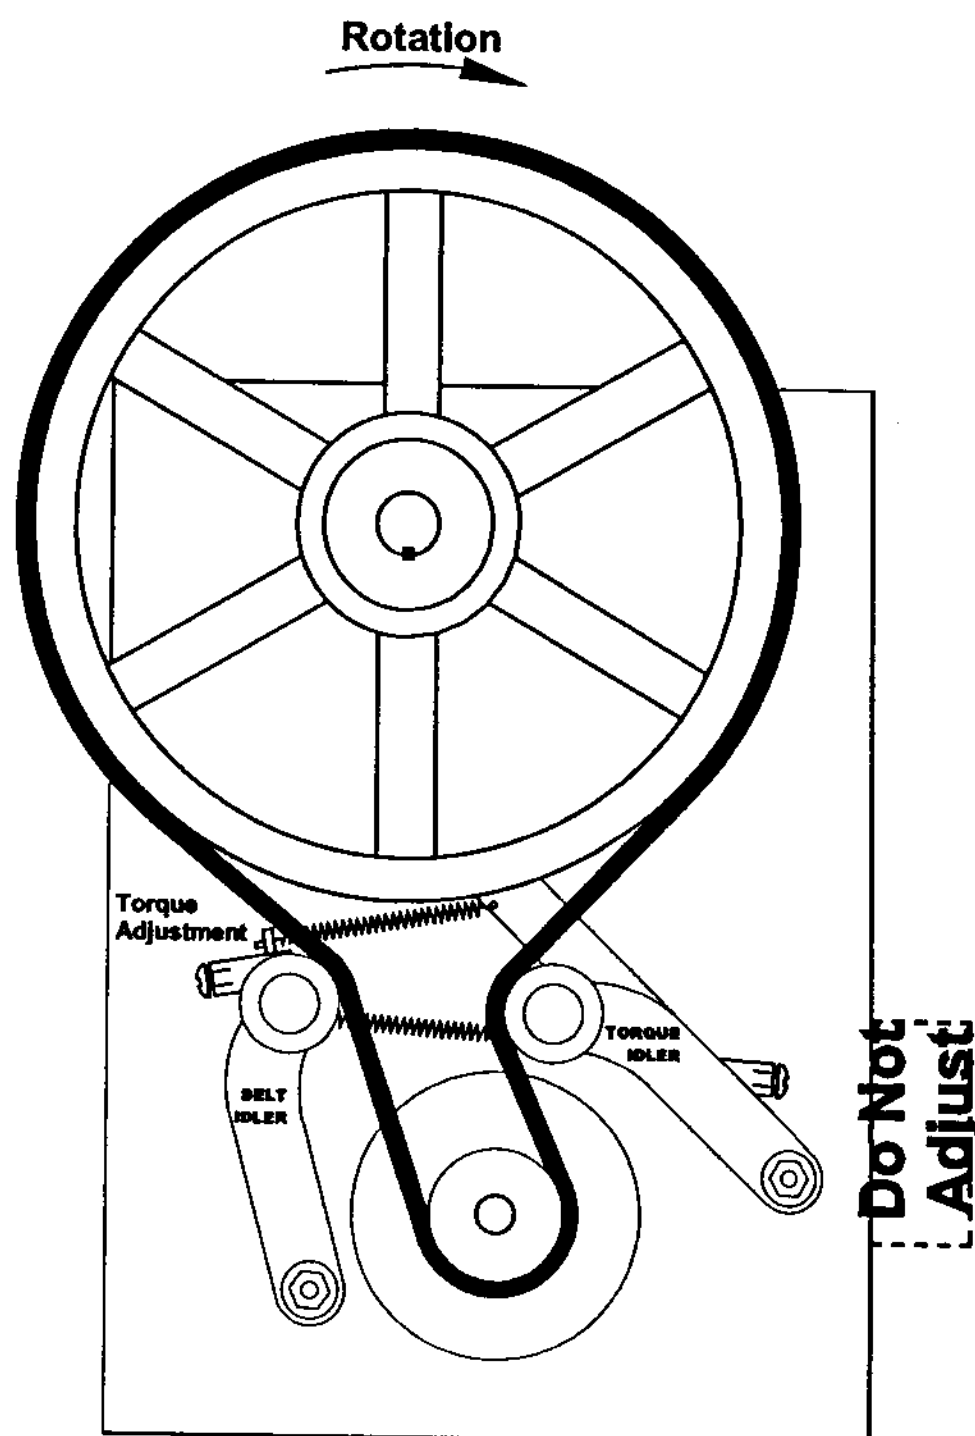

Fig. 28
2. Using a regular straight screwdriver, turn the mechanical consistency or torque adjustment screw (Fig. 28) clockwise to make the product harder and counterclockwise to make the product softer. Do not adjust more than two turns each time. Do not attempt to adjust the belt idler screw on the left side of the machine marked "Do Not Adjust".